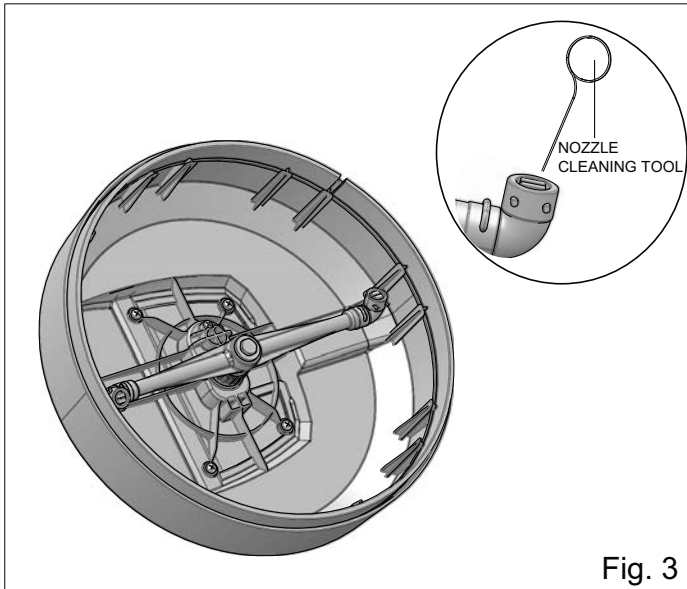

Fig. 3
- If striping or swirl marks occur, slow your pace. If striping or swirling continues, the surface cleaner nozzle(s) may be clogged. Disconnect surface cleaner from pressure washer spray wand before servicing. Using a straightened paper clip or nozzle cleaning tool (not provided), free any foreign materials clogging or restricting the nozzle.(See Fig.3)